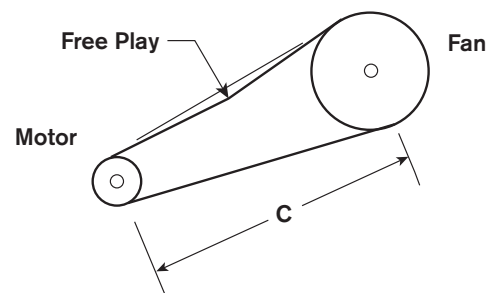

FIGURE 1 Sheave alignment and free play
**IMPORTANT:** Make sure the motor and fan sheaves are aligned and parallel with each other (belt manufacturer recommends alignment within  $0.5^\circ$ ). Using a long straight edge, lay the straight edge against the faces of the sheaves. If each sheave contacts the straight edge in two places the sheaves are lined up. See Figure 1.